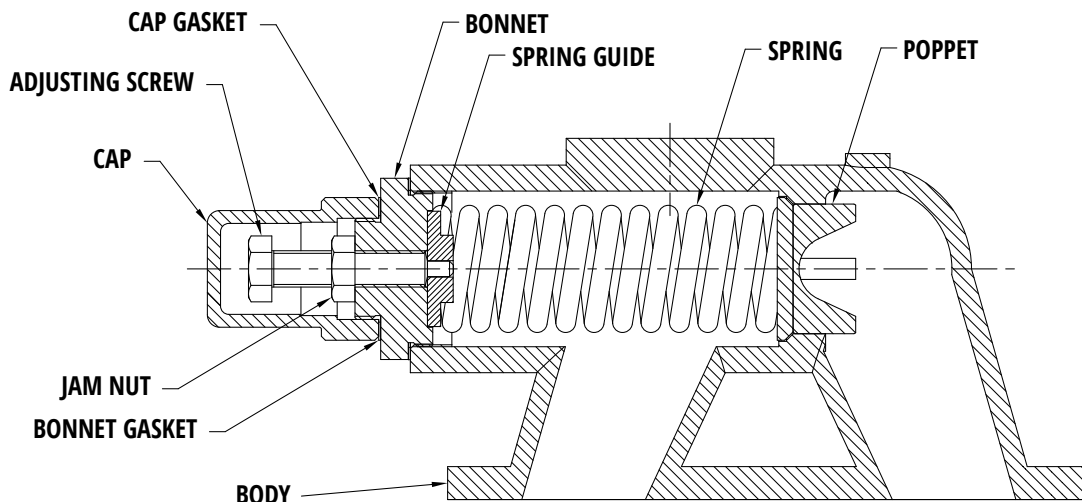

Figure 12 – Relief Valve
## Disassembly of relief valve (see figure 12)
- Re-assembly of relief valve (see figure 12)